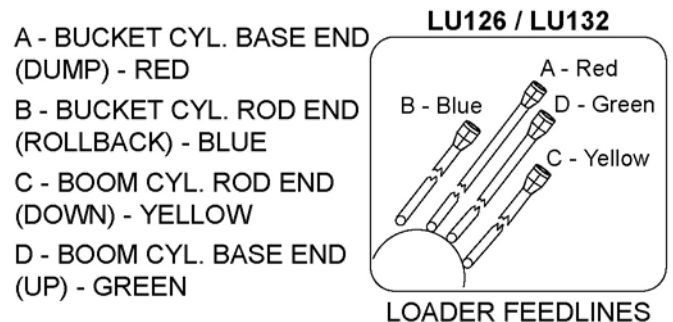

Figure 40. Loader Feedline Connections
2. Connect loader supply hoses to loader feedlines as shown in Figure 40.